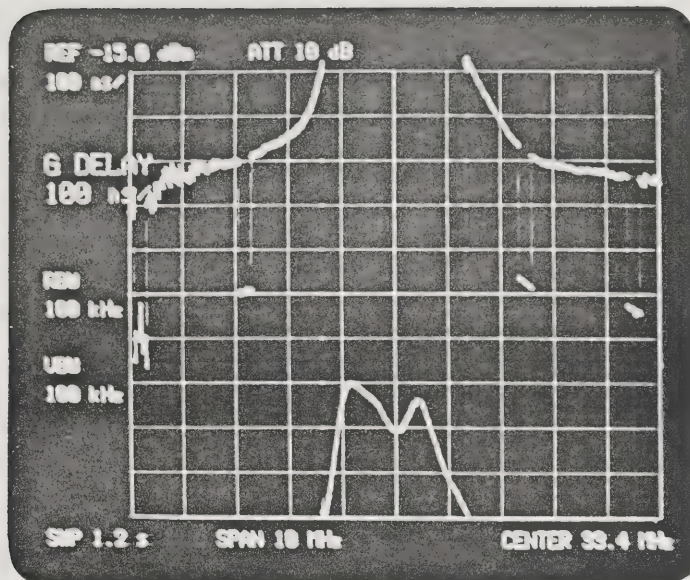

Fig. 7-7 Group delay measurement
- (9) The group delay of the filter can be observed by pressing the GROUP DELAY key (Figure 7-7).